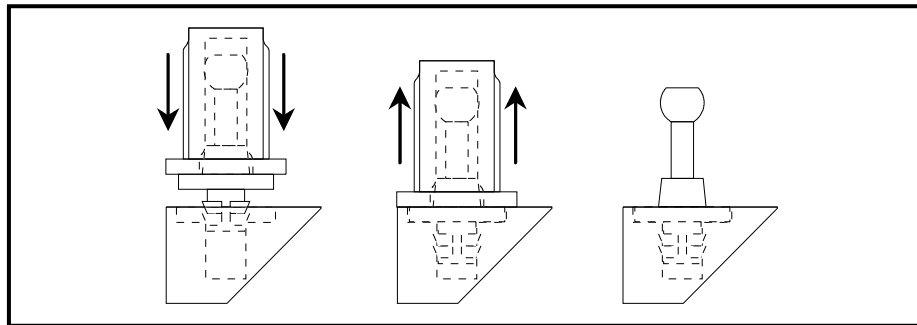

Figure 2.6 - Installing grille pin into INDRA grille frame. Note that after installation, the grille pin flange is flush with the surface of the grille.
- Place the exposed end of the grille pin in the open mounting hole. Check to insure that the grille cloth is not trapped between the pin and frame. Use a small hammer and gently tap the new grille pin in place. Then, pull the insertion tool off the new pin and verify that the pin flange is flush with the surface of the grille. Please refer to Figure 2.6.